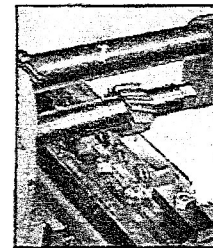

Fig. 8 — SLABBING
The type and size of cutter to use depends entirely upon the shape of the piece to be milled. Some operations would require slab milling (Fig. 8); others, end milling, such as cutting a slot (Fig. 25); or dovetailing (Fig. 11 and 12), in which case a dovetail cutter is used. One very important thing should be kept in mind: When selecting a cutter the size should be the smallest permissible to perform the operation. The larger the cutter the more power it takes to drive it.
1. **PLAIN MILLING OR COMMON SLAB OR SURFACE MILLING**: For this type of milling operation a plain milling cutter is used. A plain milling cutter is one which machines surfaces parallel to its own axis of rotation. The cutting teeth are only on the periphery of the cutter. The cutting teeth on some plain milling cutters are parallel to the axis of the cutter; others have helical edges which have an advantage over the parallel edge type because the full cutting edge of the tooth does not contact the work at the same time but rather the cut commences at one corner and gradually proceeds across the work in a shearing-like action, thereby resulting in much smoother cutting action. (See Fig. 8.)